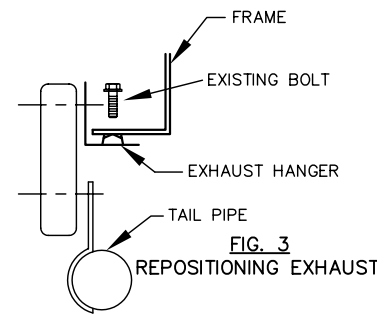

FIG. 3
**NOTE:** ON SOME MODELS, THE TWO REARMOST ATTACHMENTS HAVE TWO (2) BOLTS CONNECTED WITH A PLATE. THE BOLTS WILL HAVE TO BE SEPARATED (SEE FIG. 3), DISCARDING REARMOST BOLT AND REINSTALLING THE OTHER AS SHOWN.